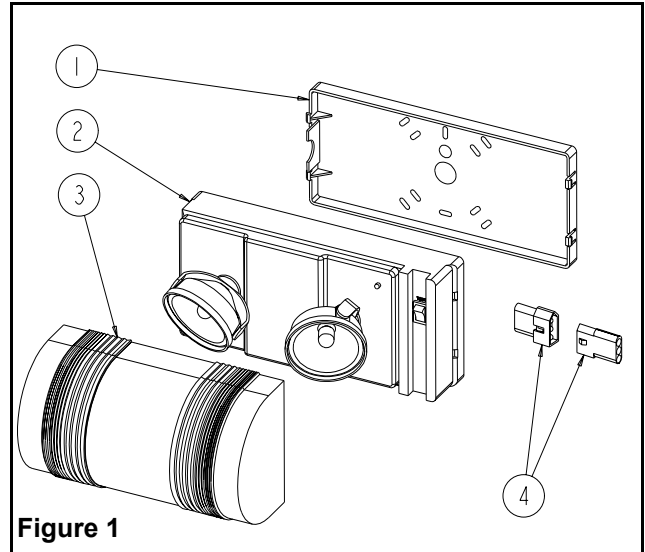
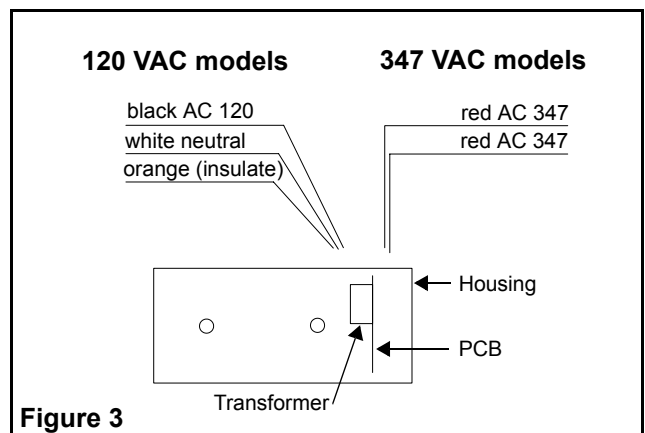

Figure 1
Figure 3
3. Locate the AC connector (see fig. 1) and attach to the unswitched AC circuit (or to the line cord for units with such an option). Our unit can accept input voltages of 120 VAC or 347 VAC depending on the model (see fig. 3).